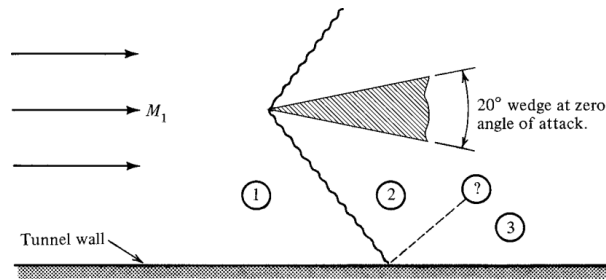

Figure P7.15
7.15 For the flow situation shown in Figure P7.15, $M_1 = 1.8$, $T_1 = 600^\circ\text{R}$, $p_1 = 15 \text{ psia}$, and $\gamma = 1.4$.